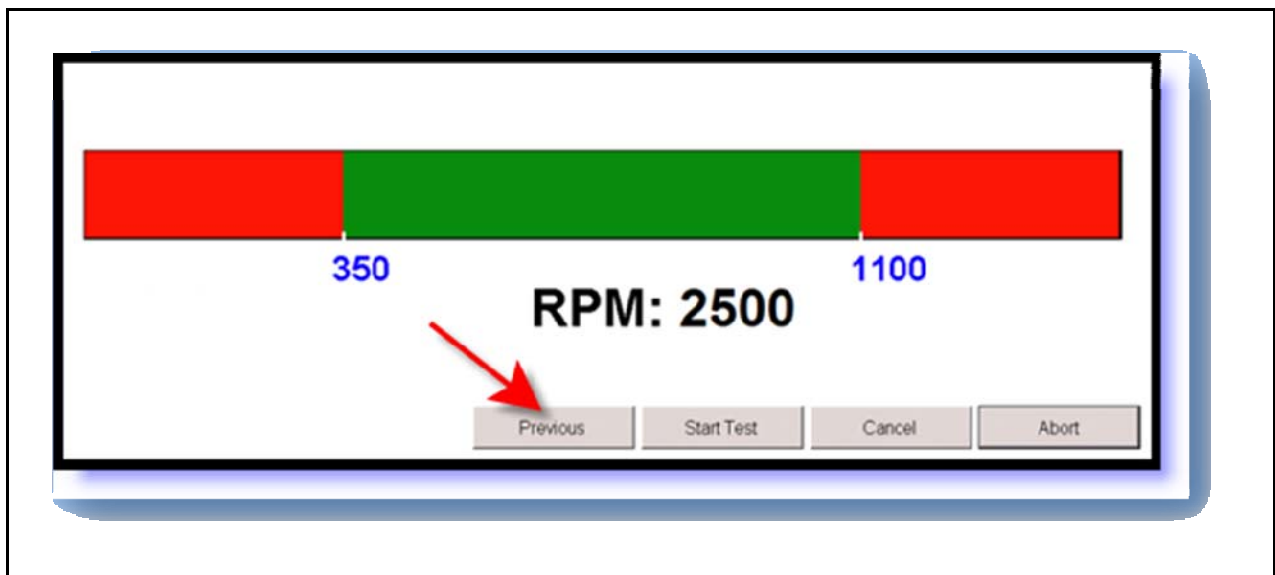

Figure 5-1: Select "Previous" from RPM Screen
| Figure 5-1: Select "Previous" from RPM Screen.....        | 10 |
- See Figures 5-1 and 5-2 below.